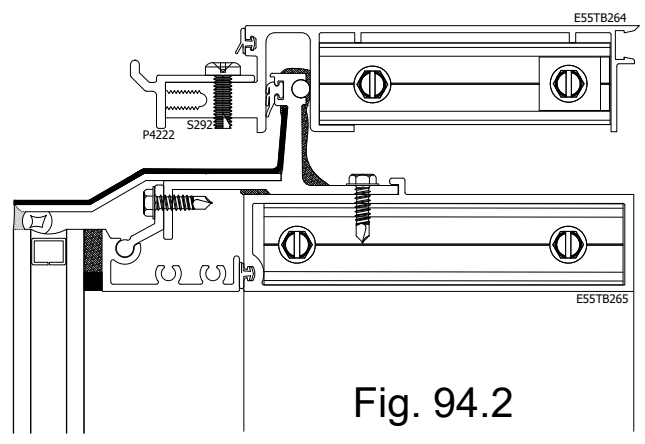

Fig. 94.2
- Step 3: Once back support frame is installed and secured, install Cassette sill anchor P4222 12" on center and secure with fastener S292. See Fig. 94.2